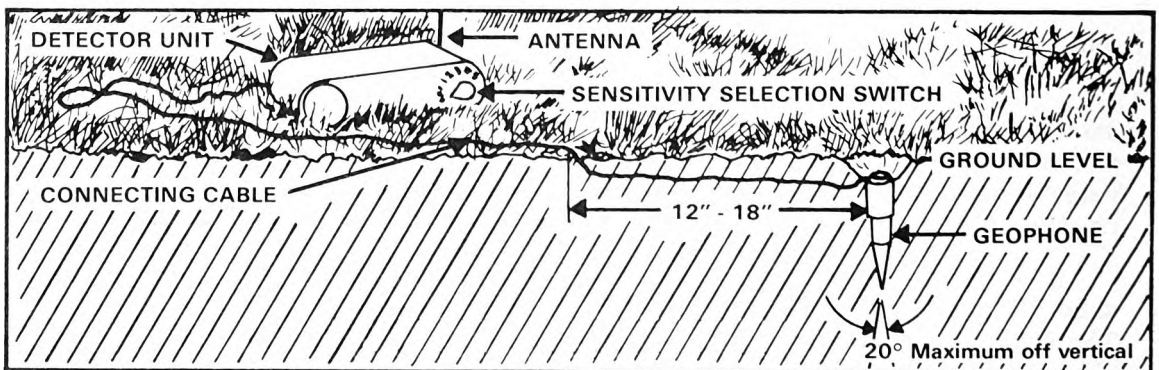

Figure 2. PSID emplacement.
- b. Select one of the detector sets and notice the pulse code marked on the detector case. Emplace the detector set in the checkout area as shown in figure 2. The receiver operator should be 4 to 5 meters (13 to 16 feet) from the detector set.
a. The detector sets will be emplaced as shown in figure 2. The deployment location should be one which has a low level of background noise (background noise is defined as any undesired vibration within the sensitivity range of the detector set, such as high winds, rain, low-flying aircraft, and similar sources of ground disturbances). Some areas which present high levels of background noise would be airfields, heavily traveled